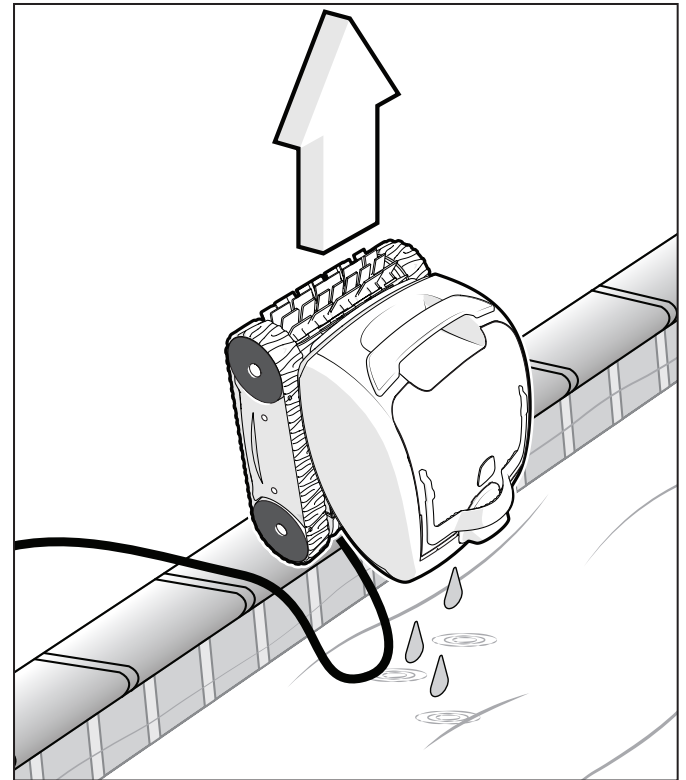

Figure 16. Drain Water from the Cleaner
3. Hold the cleaner vertically over the pool surface to drain water before removing (Figure 16).